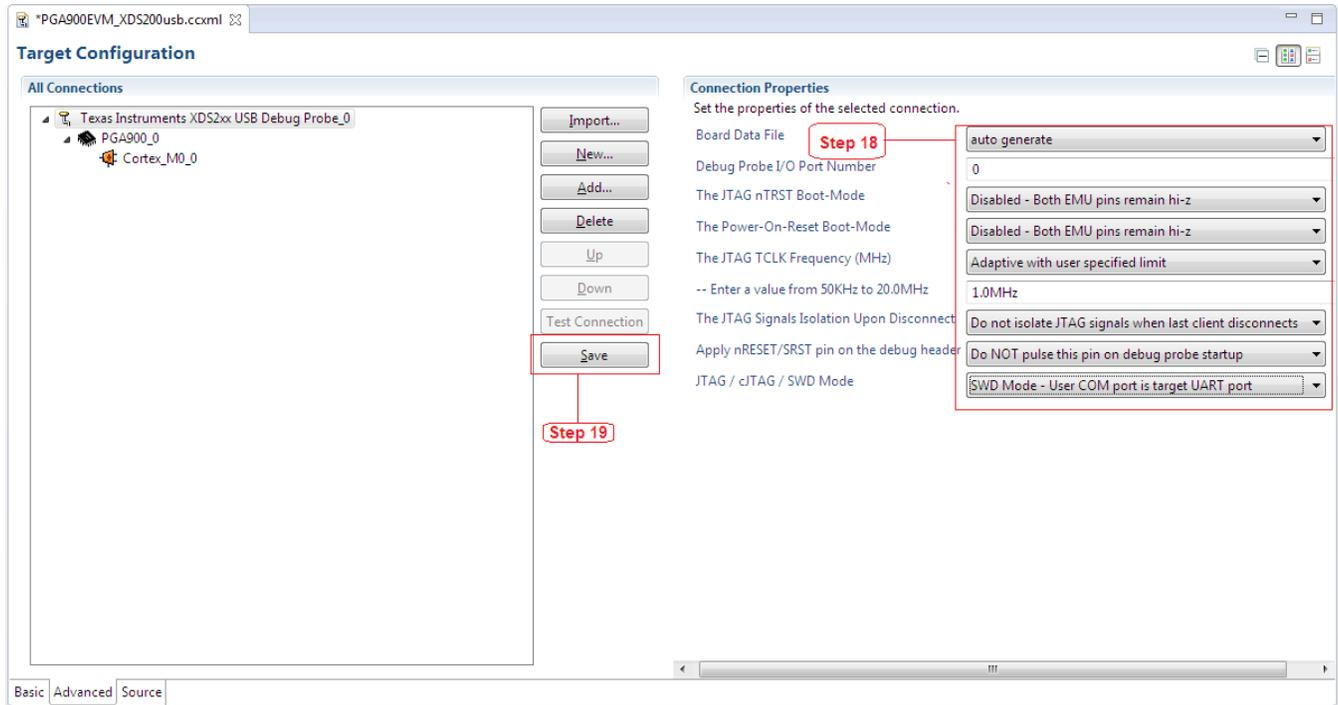

Figure 15. XDS200 USB Emulator Connection Properties
18. 'Connection Properties' setting should be as shown in Figure 15. Table 1 shows the 'Connection Properties' configured parameters.